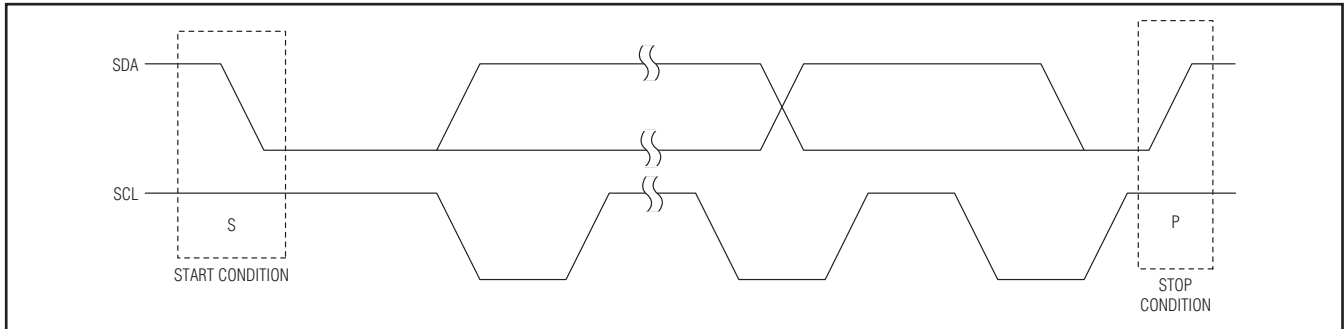
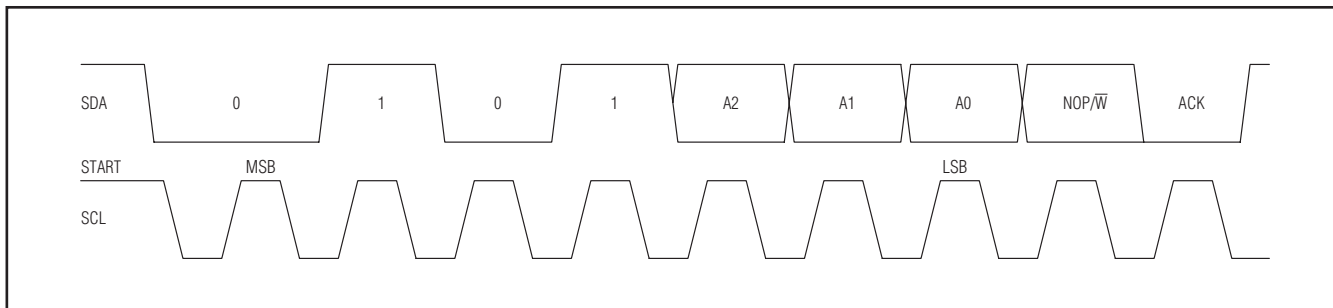

Figure 3. START and STOP Conditions
Figure 6. Slave Address
Each transmission consists of a START (S) condition (Figure 3) sent by a master, followed by the MAX5387 7-bit slave address plus the NOP/W bit (Figure 6), 1 command byte and 1 data byte, and finally a STOP (P) condition (Figure 3).
The MAX5387 includes a 7-bit slave address (Figure 6). The 8th bit following the 7th bit of the slave address is the $\text{NOP}/\overline{\text{W}}$ bit. Set the $\text{NOP}/\overline{\text{W}}$ bit low for a write command and high for a no-operation command. The device does not support readback.